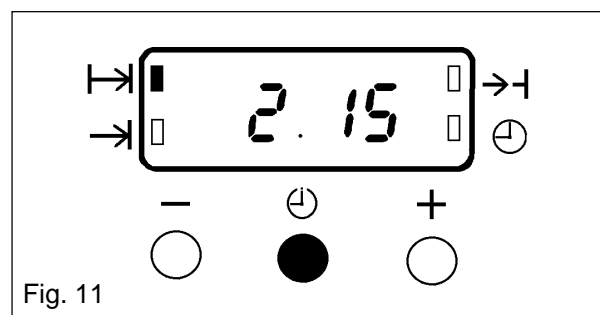

Fig. 11
- vi) To check the End Time during the cooking period, simply press the Selector Control button once and the remaining time will be displayed, as Fig. 11.